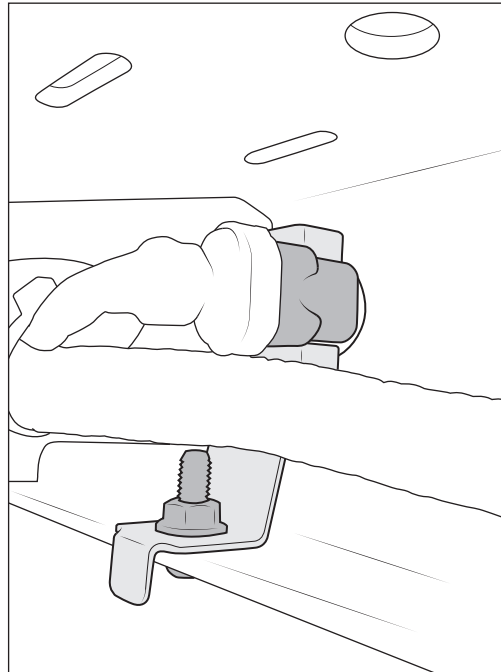
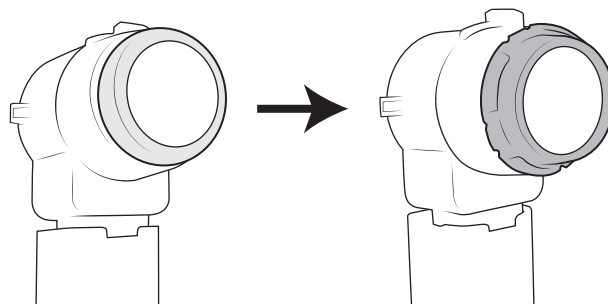

Figure 23
Figure 24
8. If equipped, install two center park sensors onto center section using two of the supplied stainless steel brackets, M6x20 Button head bolts, and washers (fig. 23). It is important that the sensors are installed in the correct orientation. Connectors should be facing inboard when installed. The supplied brackets are designed to allow for bending/adjusting to provide a proper fit. NOTE: 2010–2018 Trucks will need to swap out the rubber isolator rings on all four park sensors with the supplied isolator rings (fig. 24).
NOTE: 2010–2018 Trucks will need to swap out the rubber isolator rings on all four park sensors with the supplied isolator rings (fig. 24).